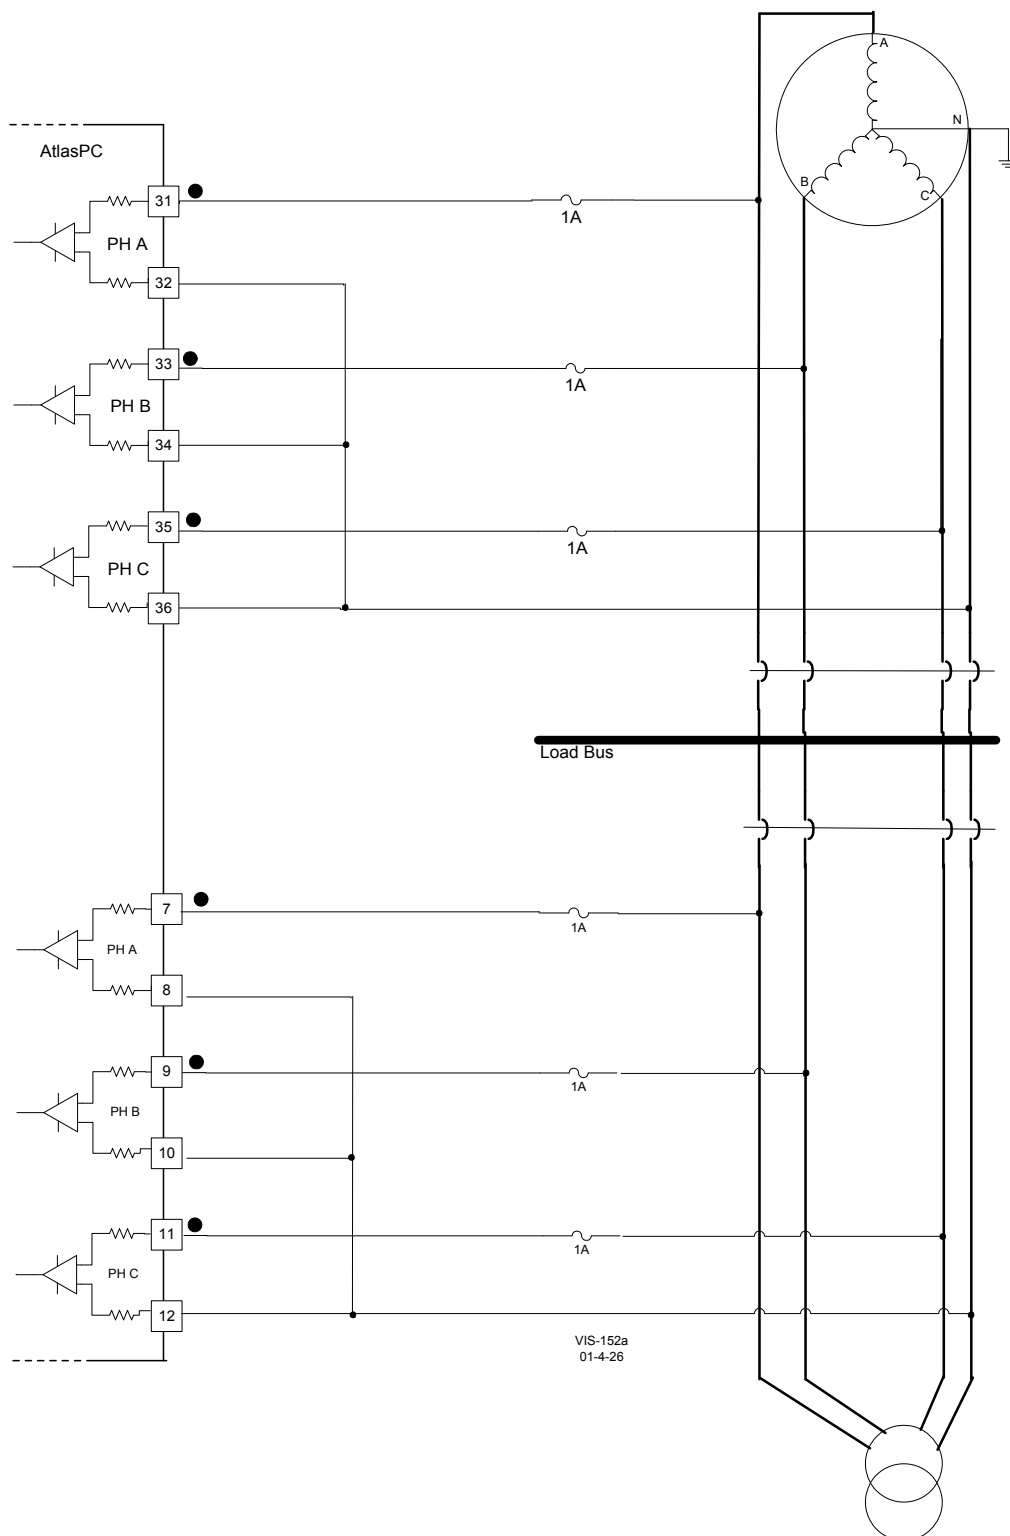

Figure 8-4. Wiring Example—Wye Connected System
- Refer to Figures 8-4 through 8-8 for PT wiring.